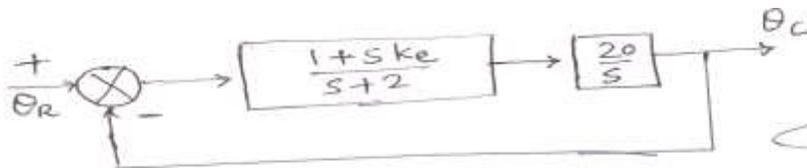

Fig 3 (C)
- (c) The control system shown in figure 3 b. employs proportional plus error rate control. Determine the value of error rate constant  $K_e$ , so that damping ratio is 0.5. Determine the value of settling time, maximum overshoot . Find the steady state error if the input is unit ramp input. 07